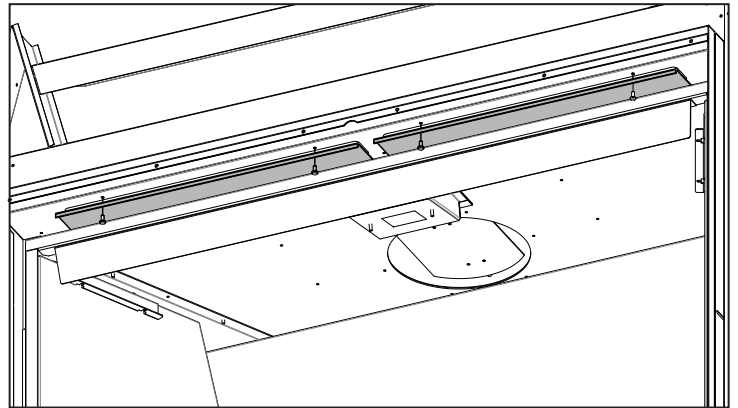
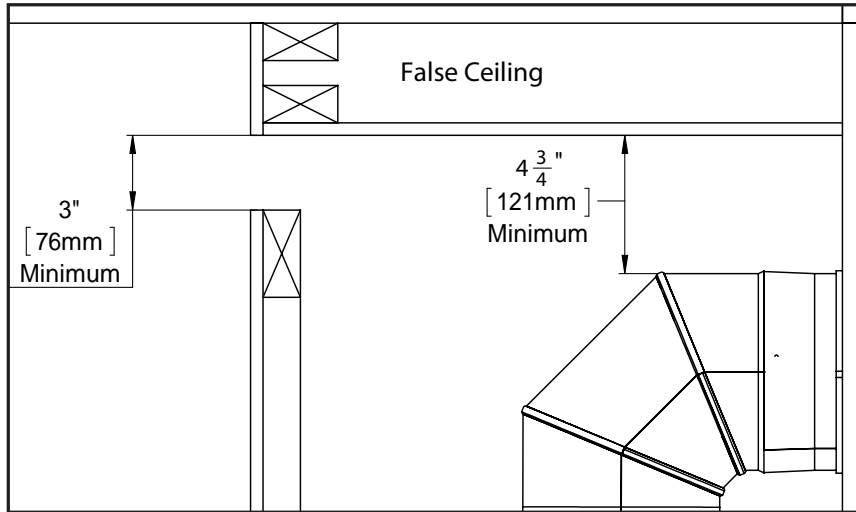

Figure 39: CSS Cover Plates
Figure 42: False Ceiling
- Step 4.** Remove the two cover plates on the ceiling of the unit. These are secured by four (4) T-20 screws. See Figure 39.
Optional: False Ceiling - If your ceiling dimension is greater than the minimum (Figure 39) You may want the CSS Air discharge lower on the wall. To do this a false ceiling is required to properly evacuate the heat from the chase. (See Figure 42).